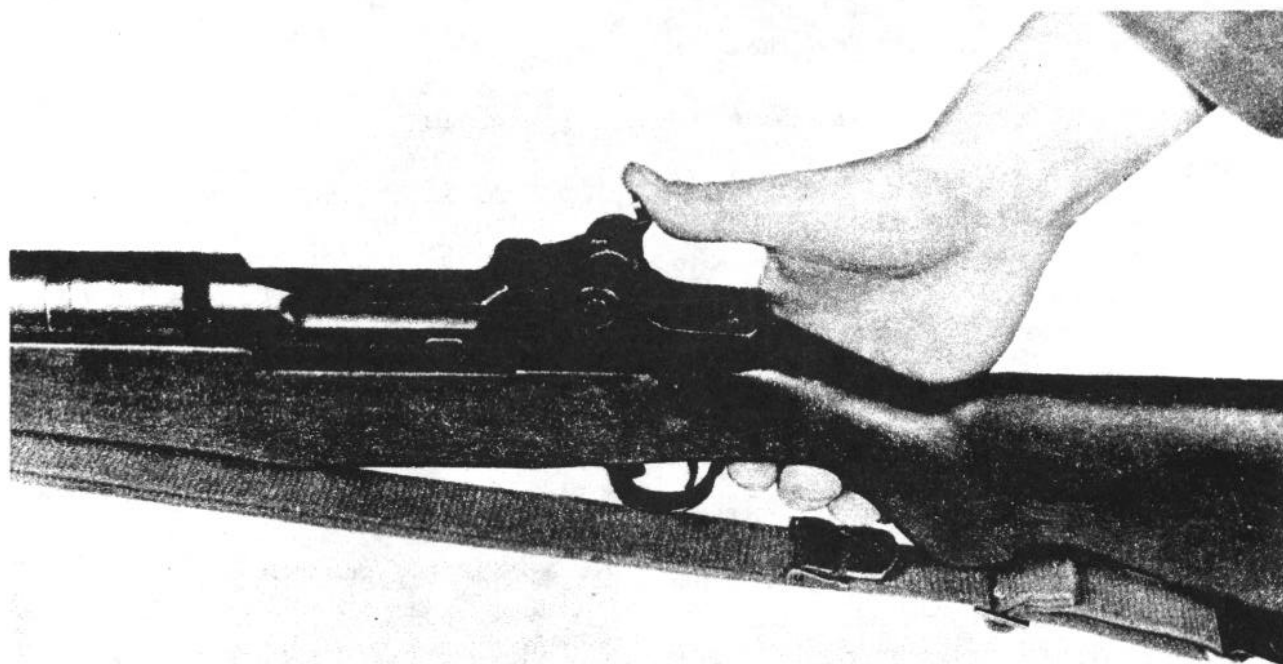

Figure 36. Proper sight tension.
- (3) To check for proper tension the procedures listed below should be followed:
- (c) Grasp the rifle with the fingers around the small of the stock (fig. 36) and exert downward pressure on the aperture with the thumb of the same hand.
- (4) If the aperture drops, sight tension must be adjusted. To do this the *windage* knob nut must be turned in a clockwise direction one click at a time until the aperture can no longer be pushed down (fig. 36). If the proper tension cannot be obtained, the rifle must be turned in to the unit armorer.